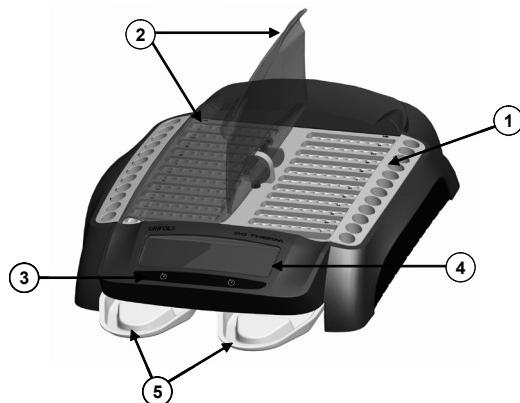
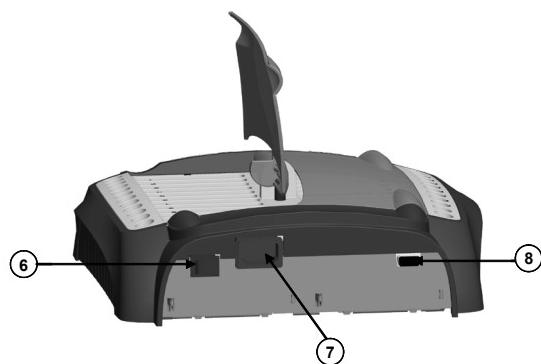
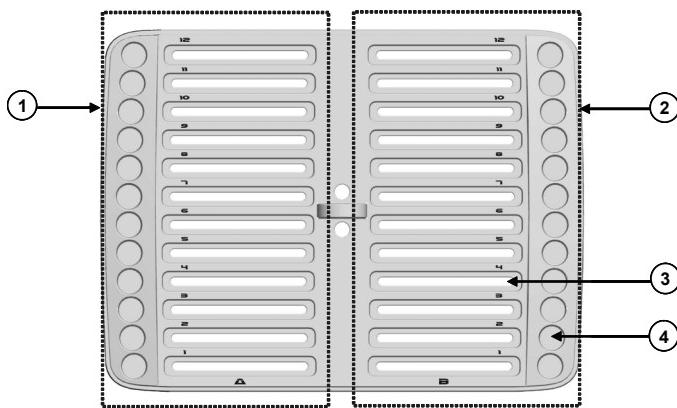

Figure 4: Front View of DG Therm Incubator
Figure 5: Rear View of the DG Therm Incubator
Figure 6: Thermal Block
The biohazard label (Figure 3) is placed on the flap of the *DG Therm* Trays (No.5, Figure 4) and the thermal block (Figure 6). It warns the OPERATOR about potential biological risks caused by remaining substances deposited on the surfaces of the incubator and especially on the trays.
Figure 4 and Figure 5 below show the front and the rear views of the DG Therm incubator.
The Thermal block shown in No.1 of Figure 6 is the area of the incubator designed to place *DG Gel* Cards and sample tubes for their heating at 37°C for the pre-established time.
As shown in Figure 6, the Thermal block is divided into two Incubation areas (Nos. 1 and 2). Each one has a capacity of 12 *DG Gel* cards (No. 3) and 12 sample tubes that are aligned with the cards (No. 4).
The *DG Therm* incubator has two coverings that fold laterally (No. 2, Figure 4). When closed, they keep the cards down to assure an optimum incubation of the *DG Gel Cards*.
The *DG Therm* incubator has two Start/Stop Buttons as shown in No. 3 of Figure 4, button **P1** (No.1, Figure 7) and button **P2** (No. 2, Figure 7), that allow starting and stopping independently for the two incubator timers.
DG Therm Trays (No. 5, Figure 4) are disposable and are located in the lower part of the incubator. They are used to collect any remains of samples or any other substance from accidental spillage during the use of the equipment.
- Do not position the equipment so that it is difficult to operate the mains switch. (No.6, Figure 5).
- Connect the mains cord to the incubator (No.7, Figure 5) and the mains.
- Switch on the Main switch (No.6, Figure 5).